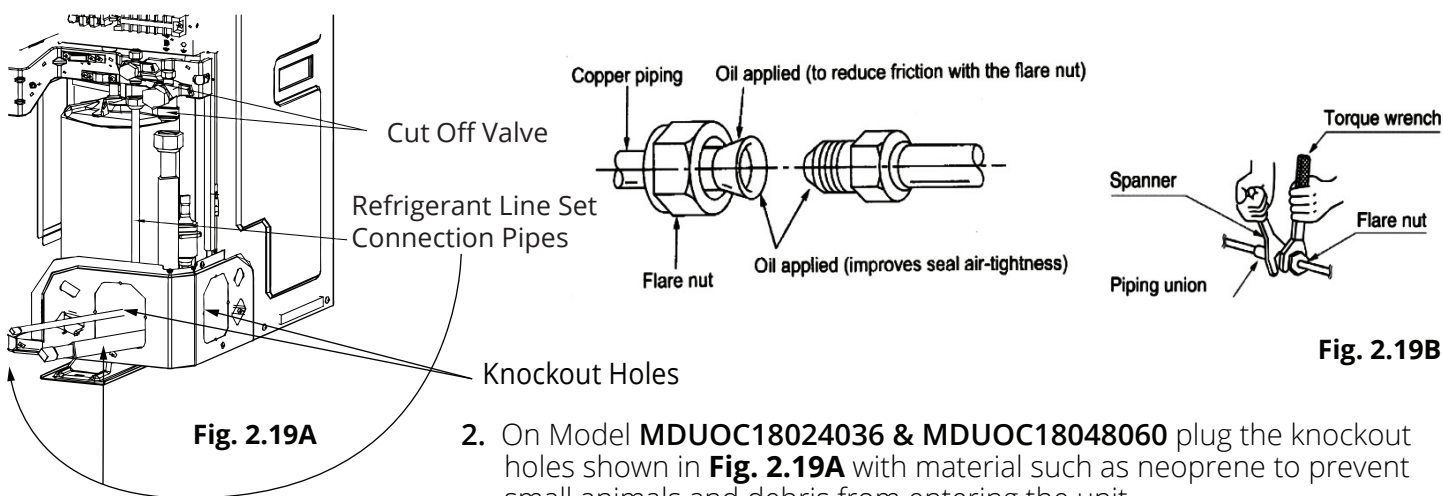

Fig. 2.19B
1. Screw the flare nut of the flared connecting pipe onto the outdoor unit valve. Refer to **Fig. 2.19A & Fig. 2.19B**, using the torque values in the table below.